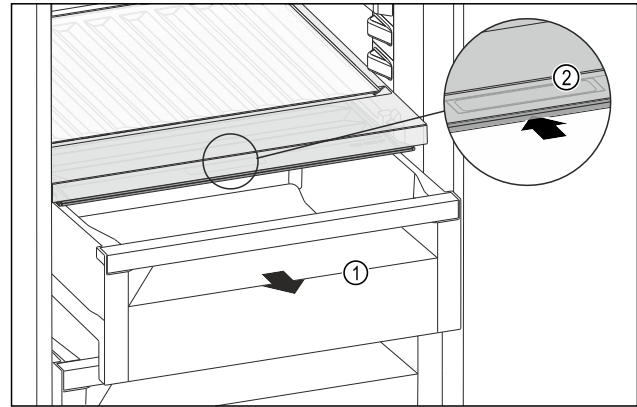

Fig. 169
- Pull out the drawer Fig. 169 (1).
- Grip the handle recess Fig. 169 (2) on the lid while pulling the lid backward at the same time.